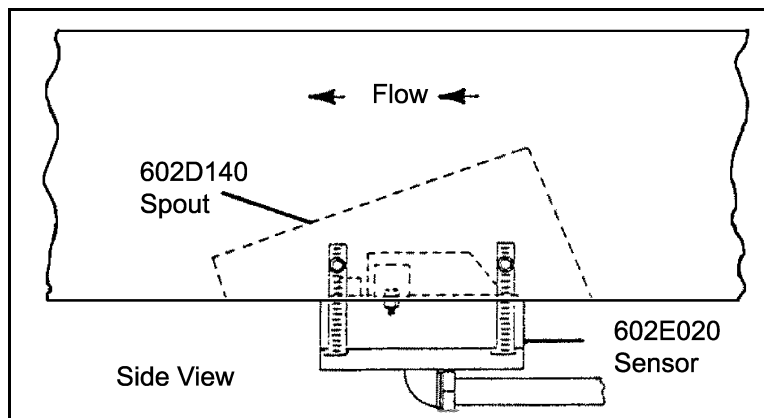
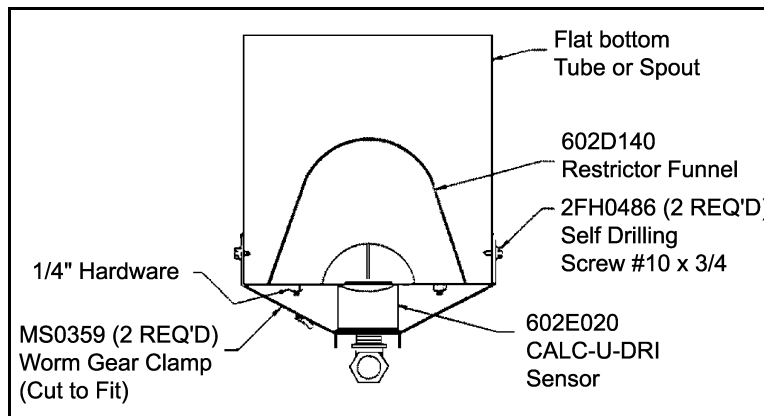

Figure 4L
Figure 4M
3. Secure the restrictor spout to the flat bottom with 1/4" hardware. Secure the sensor by cutting the end off of the strap and mounting with a self-drilling screw to the edge of the flat spout. Attach the screw end of the clamp on the other side of the flat spout with a self-drilling screw. (See Figure 4L). and (See Figure 4M).